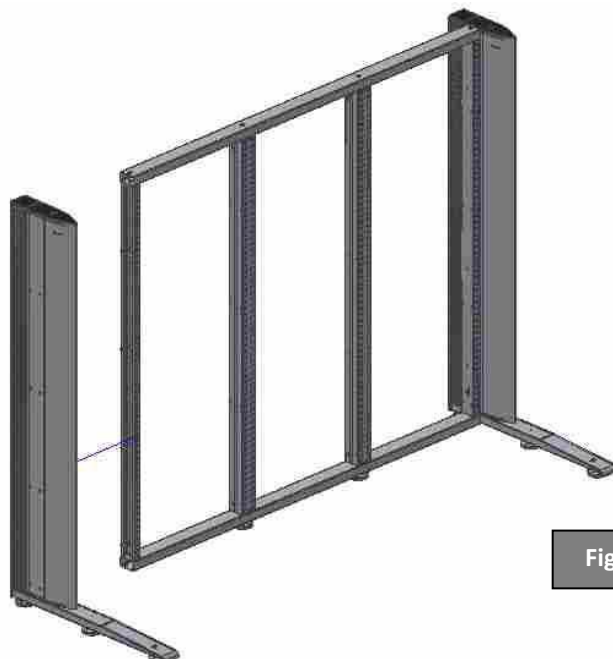

Fig 5
STEP 3 – Position the other **side** and screw it in place as explained in the two previous steps (Fig. 5)